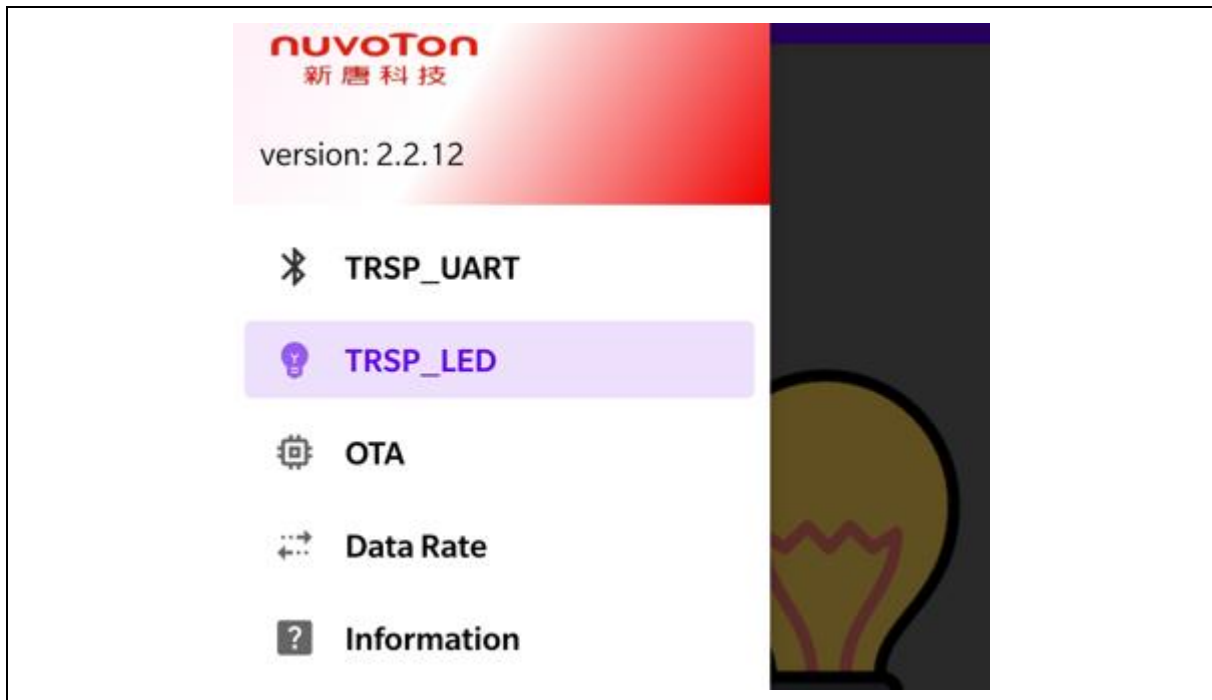

Figure 4-5 NuBLE Tabs
1. Open the NuBLE App, you can find an icon in the top-left. Click the icon, and you can see several tabs, which are TRSP\_UART, TRSP\_LED, OTA and DataRate, as shown in Figure 4-5. The default tab is the TRSP\_UART, and you need to change to TRSP\_LED.